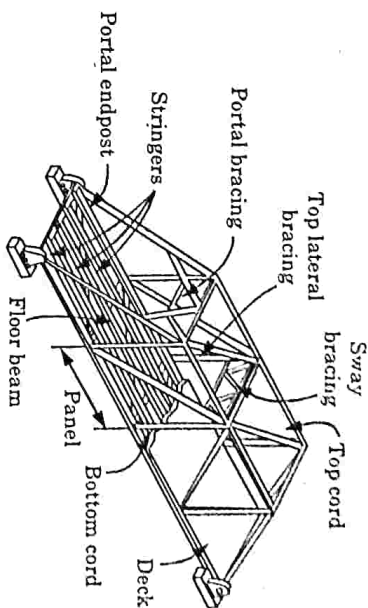

Fig. 2.2.2. Bridge truss.
1. The main structural elements of a typical bridge truss are shown in Fig. 2.2.2. Here it is seen that a load on the deck is first transmitted to stringers, then to floor beams, and finally to the joints of the two supporting side trusses.